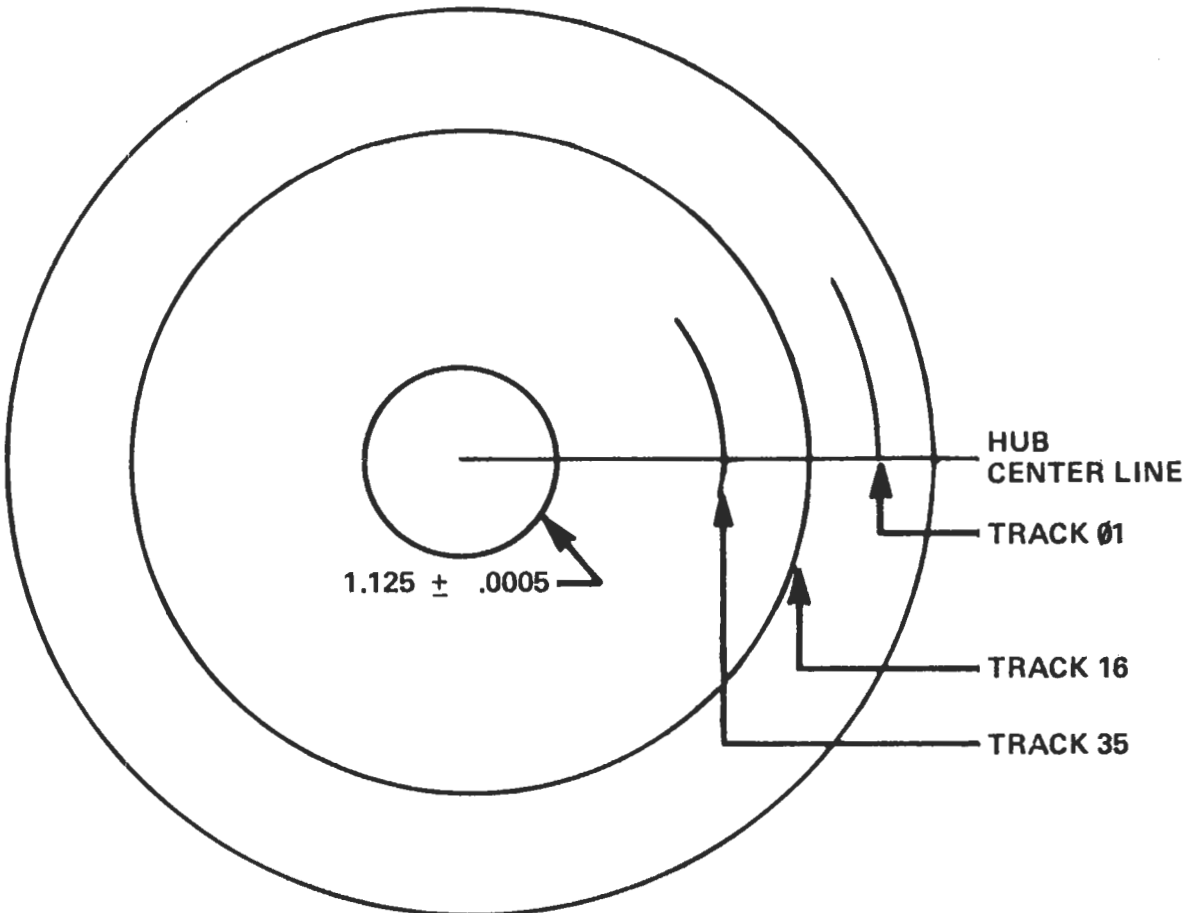

Figure 2-4
The Cats Eye (CE) alignment procedure locates the magnetic read/write head at the proper radial distance from the hub center line, thus ensuring that the track location is accurate (see Figure 2-4). This adjustment is necessary only after service or if diskette interchange problems are suspected.